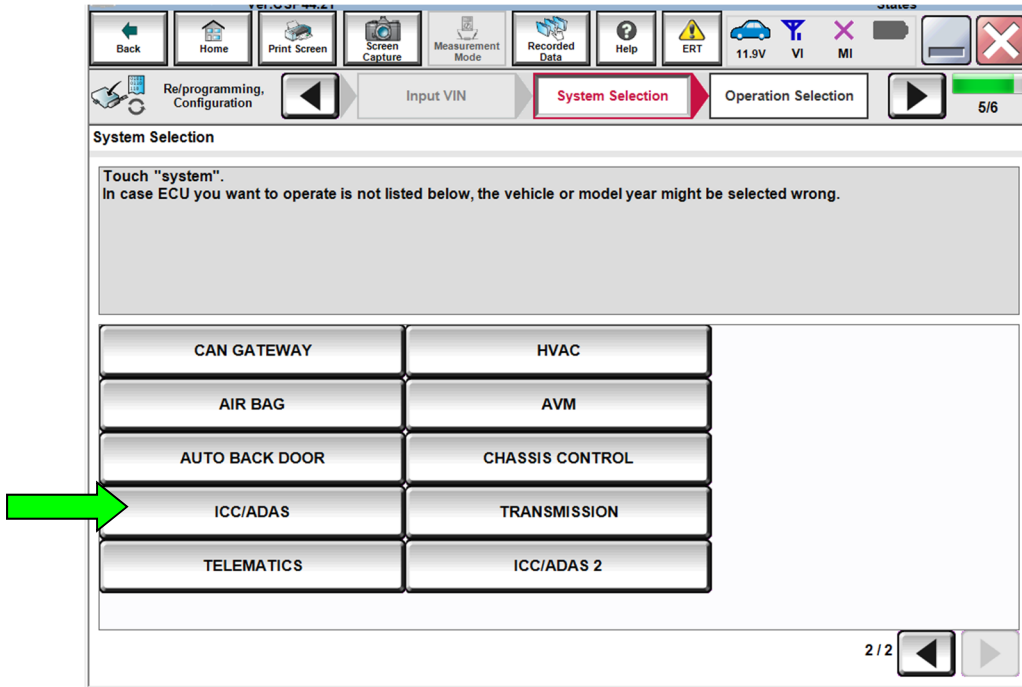

Figure 25
42. Refer to steps 1-18 starting on page 3 to navigate to Figure 25.